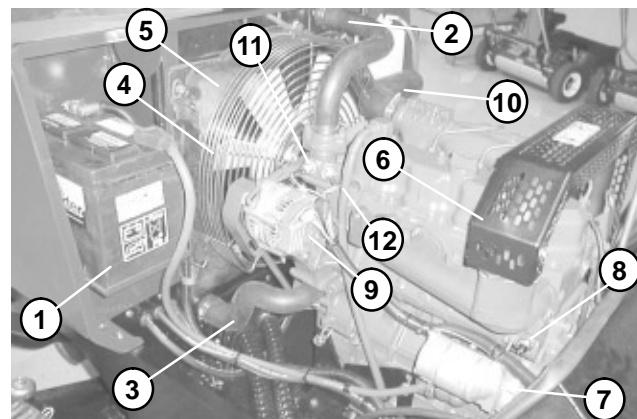

Figure 20
4. Drain radiator. Disconnect both hoses from the radiator (Fig. 20).
5. Remove air hose from air intake manifold (Fig. 20).
6. Remove exhaust shield from the engine (Fig. 20).
7. Remove fan guard and fan shroud from the radiator (Fig. 20).
- A. Disconnect wire and connector from the alternator, red cable from starter, three wires from the starter, wire from the oil pressure switch, and wires from high temperature warning and shutdown switches (Fig. 20).
A. Connect wire and connector to the alternator, red cable to starter, three wires to the starter, wire to the oil pressure switch, and wires to high temperature warning and shutdown switches (Fig. 20).